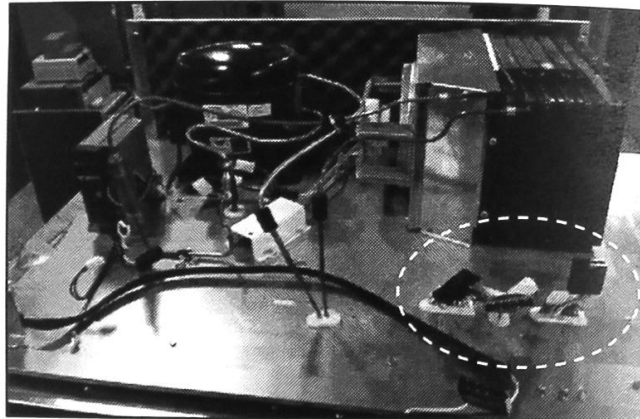

FIGURE 11
13. After disconnecting all the connectors and removal of the HV box assembly, the top of the product will look as shown in Figure 11.
NOTE: Following the removal of the HV box assembly, the circled connections should be present on the unit. See Figure 11.